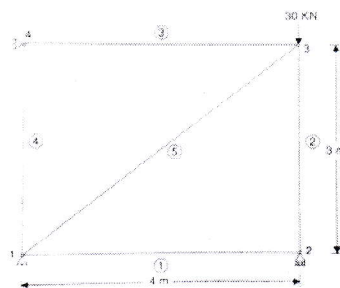

Figure 2
3. Determine the forces in the members of the truss shown in figure 2. Take $E = 200\text{ GPa}$, $A = 2000\text{ mm}^2$. [15]